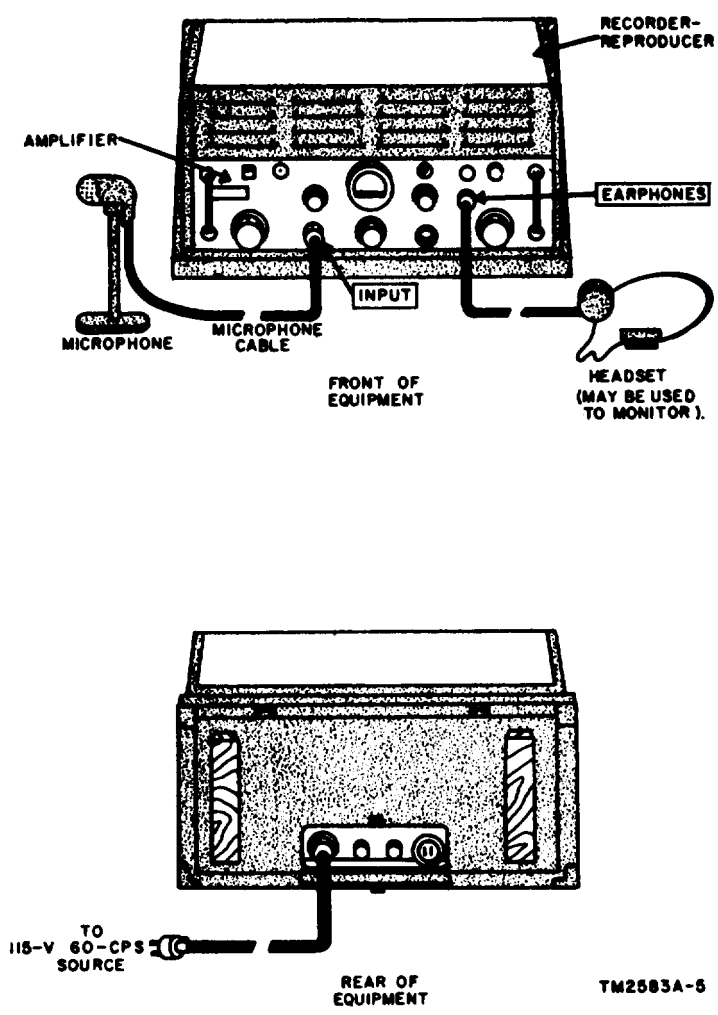

Figure 8. Equipment setup for microphone recording.
- (4) Turn the INPUT SELECTOR SWITCH of the amplifier to the MIC. position.
- (5) Turn the METER SELECTOR control of the amplifier to the RECORD LEVEL position.
- (6) Connect the microphone cable to the INPUT connector (fig. 8) of the amplifier by lining up the key on the microphone cable connector with the keyway on the INPUT connector, and pushing the connector.
- (7) Open the access door at the back of the recorder-reproducer carrying case
##### 14. Microphone Recording (fig. 8)